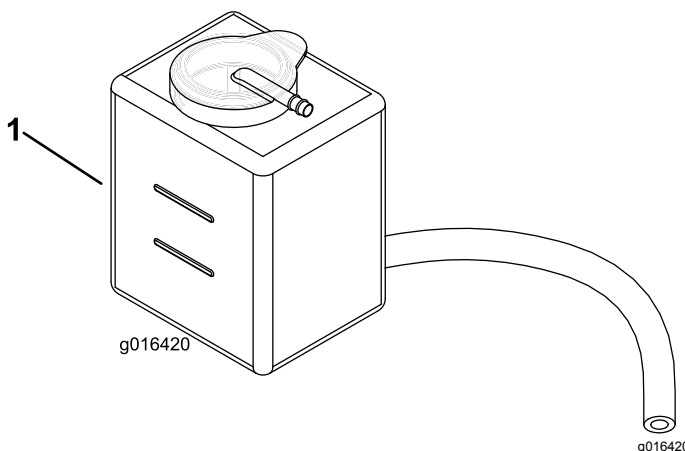

Figure 43
2. Check the coolant level (Figure 43).